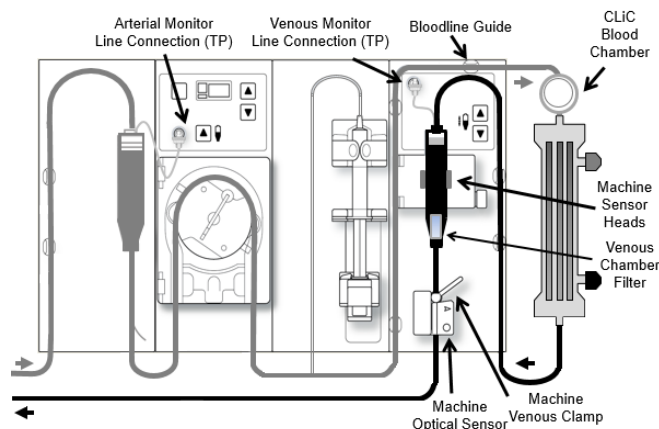

Figure 8: Bloodline/Machine Interface
- Roll the venous drip chamber into the venous level detector with filter below sensor heads. See Figure 8. Close and latch door.
- Insert the venous bloodline into the machine venous line clamp and optical detector and close the optical detector door. See Figure 8.